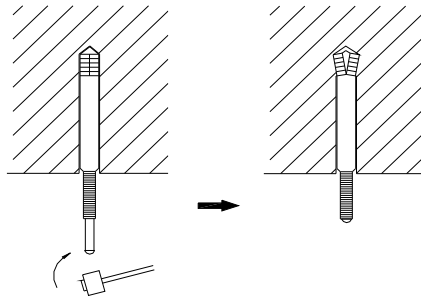

Figure 1-1-1
- 3) Insert a M10 expansion bolt into the hole. Drive a nail into the bolt. Refer to the profile dimensions drawing of the indoor unit for the distance between the holes. Refer to Figure 1 for the installation of the expansion bolt, as shown in Figure 1-1-1.